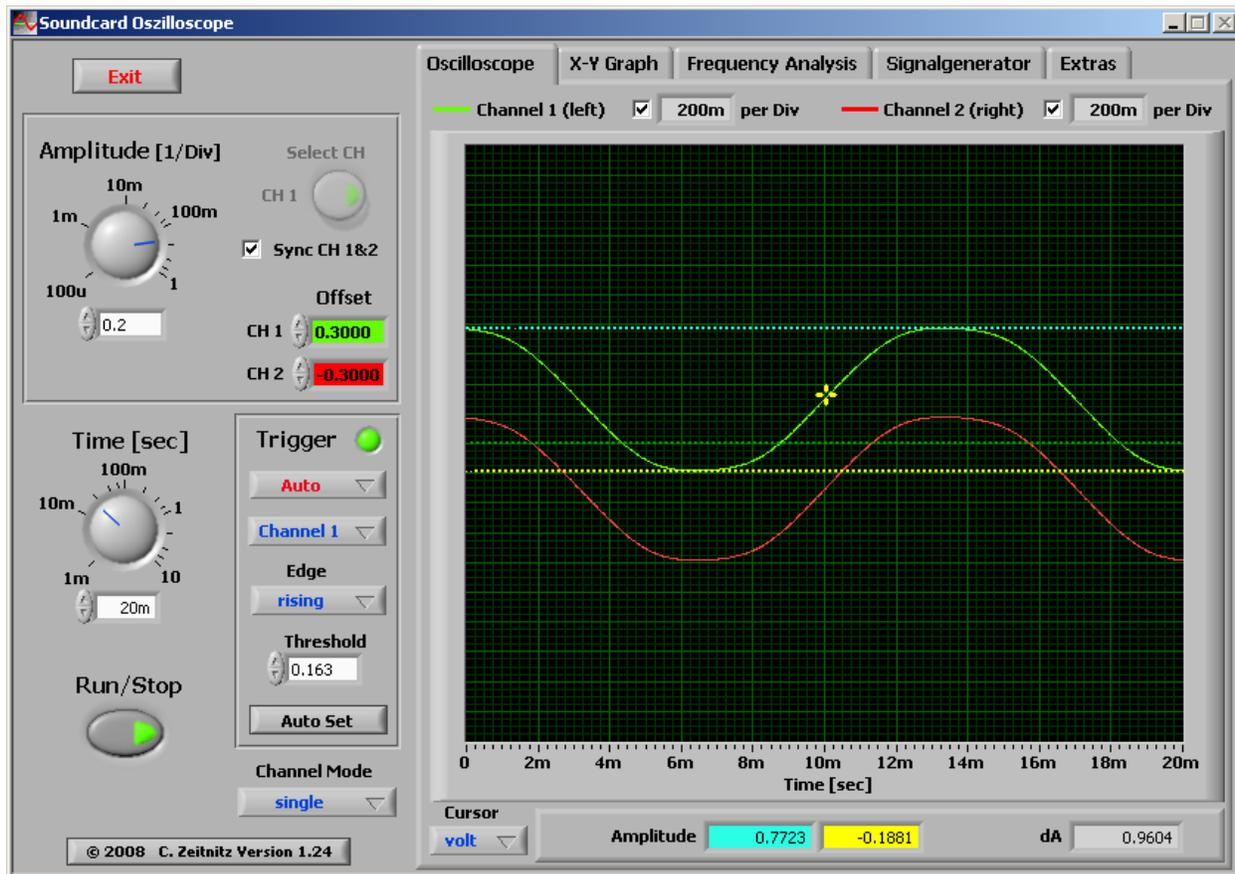

Figure 9: Maximum sine wave GEN output into 10x attenuator.
10. Use the voltage cursors to measure the maximum output of the ANDY GEN sine wave output into a 1.0 M ohm load. See Figure 9. Since we are using the 10x attenuator, multiply the measured voltage, dA, by 10 to obtain 9.60 volts peak-to-peak.